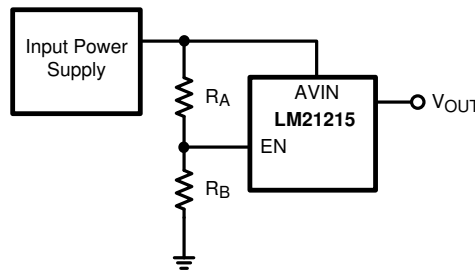

图 8-3. Enable Start-Up Through V_{IN}
The LM21215 has a built-in undervoltage lockout protection circuit that keeps the device from switching until the input voltage reaches 2.7 V (typical). The UVLO threshold has 200 mV of hysteresis that keeps the device from responding to power-on glitches during start-up. If desired, the turn-on point of the supply can be changed by using the precision enable pin and a resistor divider network connected to VIN as shown in 图 8-3 in the design guide.
The enable (EN) pin of the LM21215 allows the output to be toggled on and off. This pin is a precision analog input. When the voltage exceeds 1.35 V, the controller will try to regulate the output voltage as long as the input voltage has exceeded the UVLO voltage of 2.7 V. There is an internal current source connected to EN so if enable is not used, the device will turn on automatically. If EN is not toggled directly, the device can be pre-programmed to turn on at a certain input voltage higher than the UVLO voltage. This can be done with an external resistor divider from AVIN to EN and EN to AGND as shown in 图 8-3.